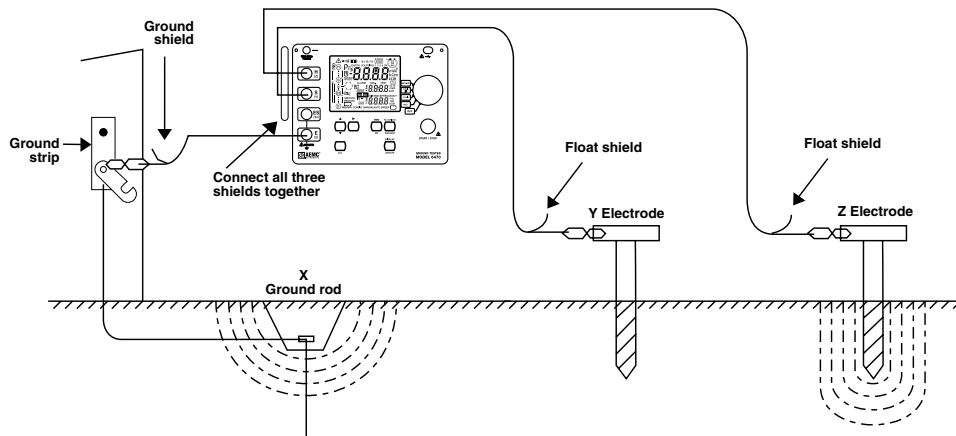

Figure 23
C) If a satisfactory low voltage value is still not obtained, the use of shielded cables may be required. The shield acts to protect the inner conductor by capturing the voltage and draining it to ground. (Figure 23)